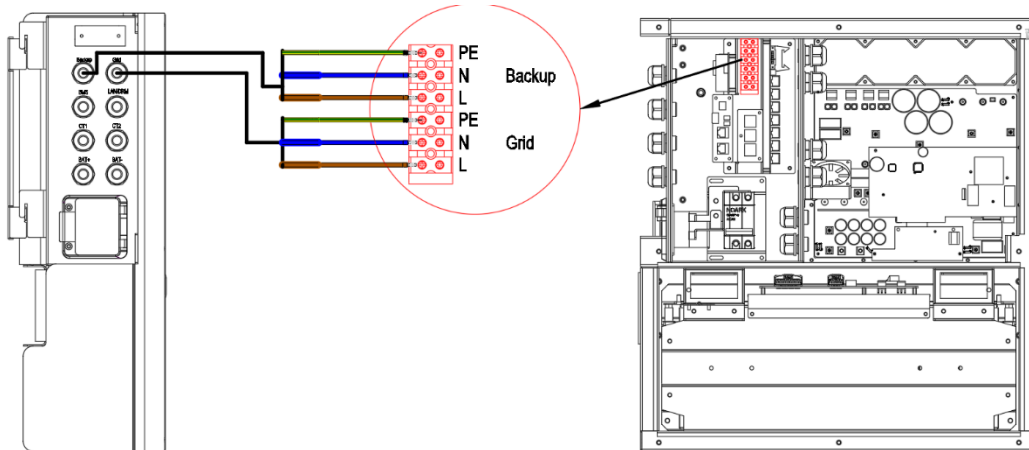

Figure 2.11 Backup and Grid Wire Harness Wiring
Step 6: Connect Backup and Grid wire harness (to 6 pin terminal strip), as shown in Figure 2.11.